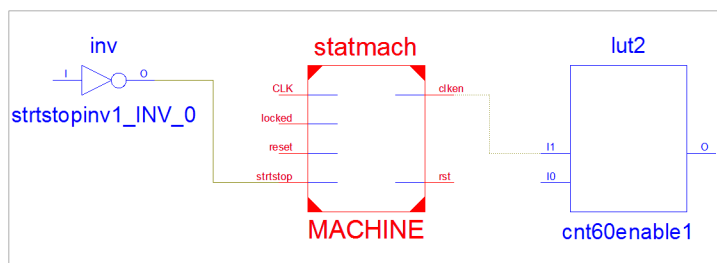

Figure 5-11: Hide Block Contents
2. Select the **MACHINE** block, and press the Hide Hierarchical Block icon to hide its entire contents as shown in Figure 5-11.